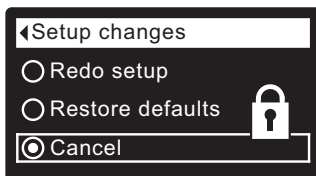

FIG. 38
8. Press the RIGHT (▶) button. A flashing padlock icon will appear, as shown in Figure 38.
- 1-7. Go to the **Setup changes** screen (Figure 38) by following Steps 1-7 at left.